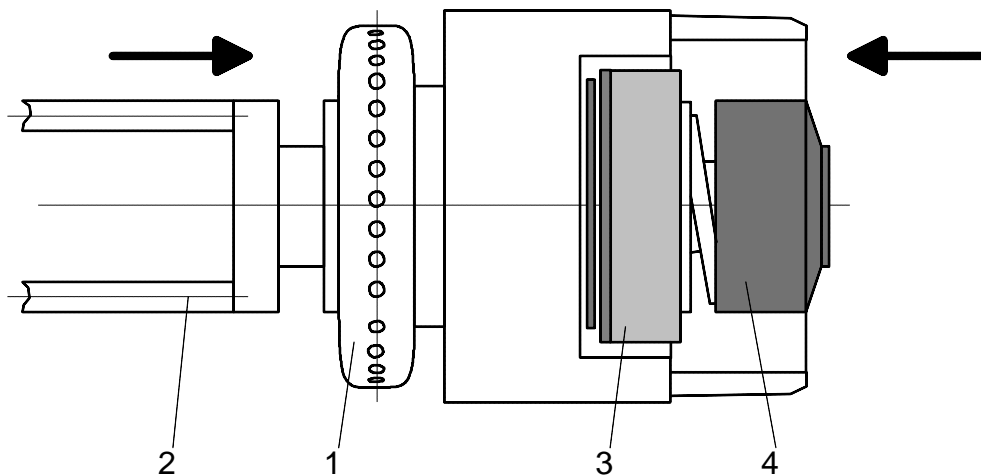

Figure 7
The inclination of the flap adapter can be changed against the module rail: unscrew nut (1) with two turns (refer to figure 7), with special hexagonal spanner (included as accessory). Push adapter in the direction indicated by the arrow (2), turn to desired setting at ring (3). Retighten nut (1).